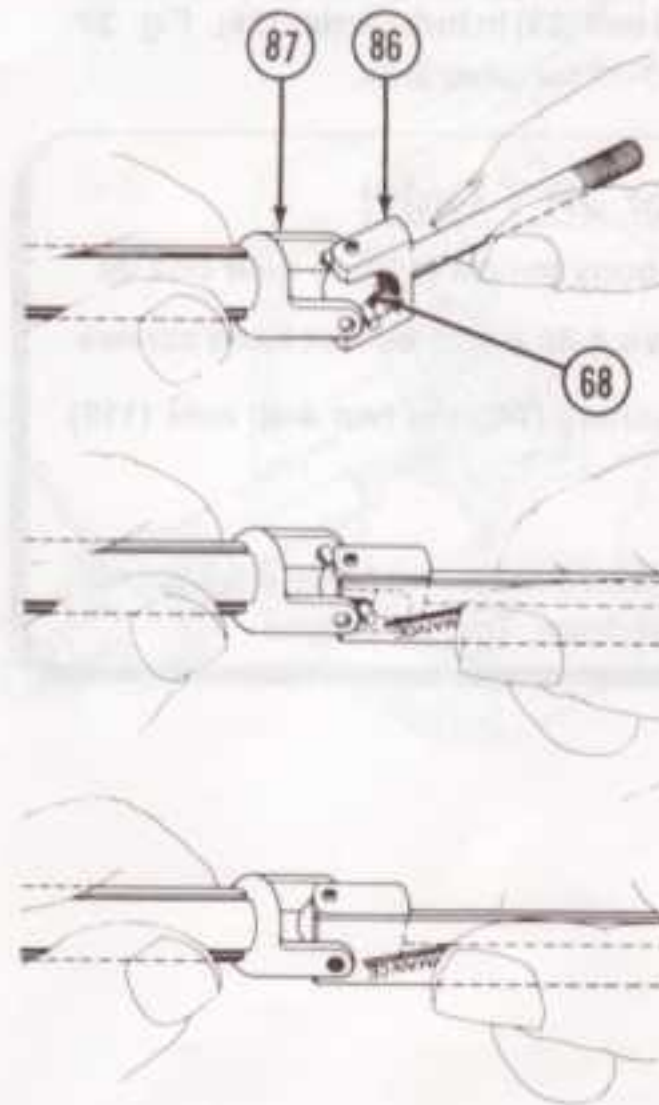

FIG. 35
13. Pry universal pivot joint (68) in rear axle (86) into the male drive shaft (87) using TEAM LOSI wrench. Fig. 35.